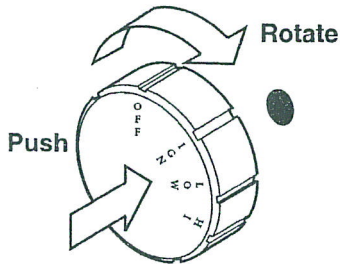

Figure 26: IGN Position
6. From OFF position, push in gas control knob slightly and turn counterclockwise to the IGN position. See *Figure 26*. Push in and hold control knob for 5 seconds.